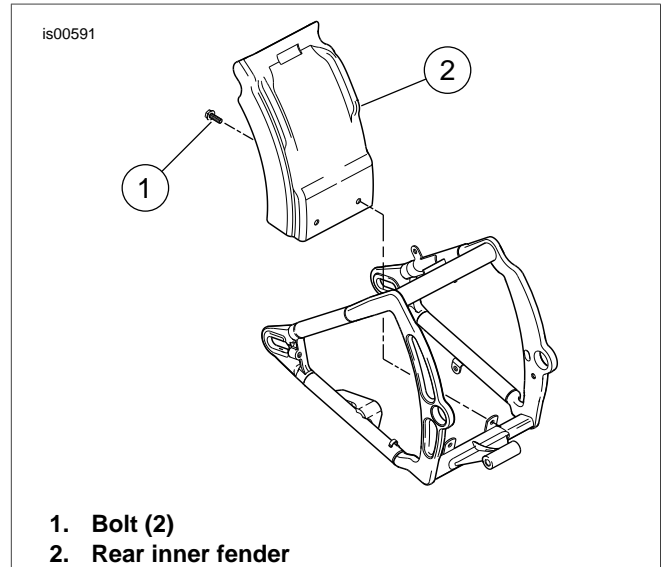

Figure 1. Rear Inner Fender
1. See Figure 1. Remove two bolts (1) from rear inner fender (2). Lift upper right corner of fender and lift upward. Save parts for later use.